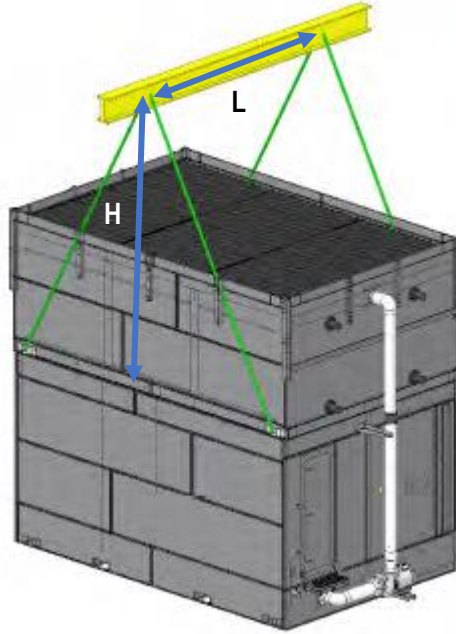
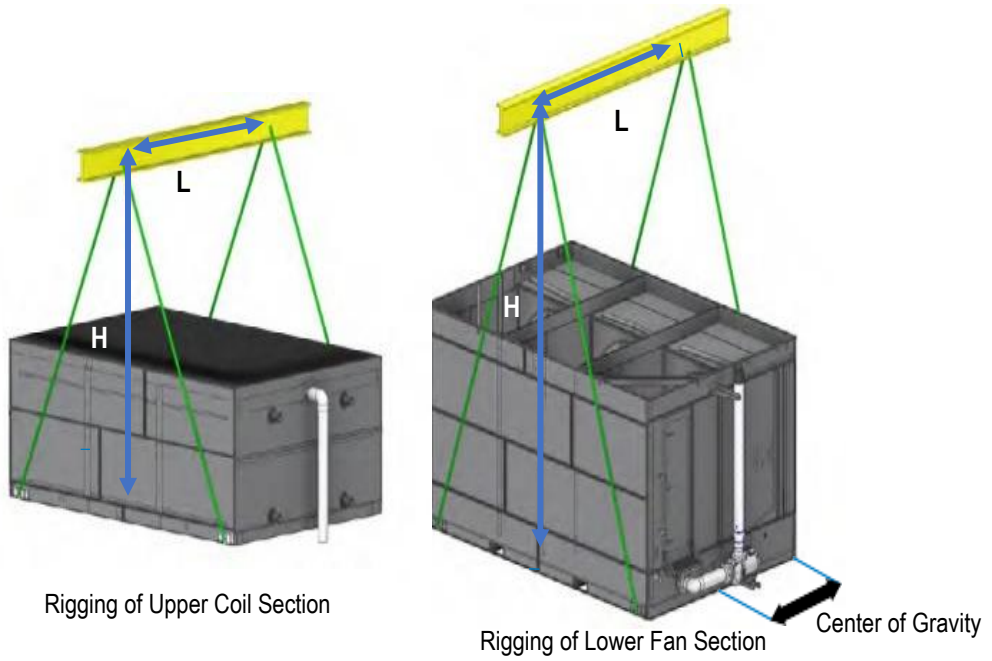

Figure 1. Single-Piece Lift
Figure 2. Two-Piece Lift
Most single cell Vertex® Evaporative Condenser products are designed to be lifted in one assembled piece as shown in **Figure 1**. **Verify the total unit shipping weight is below 35,000 lbs. before performing a single-piece lift.** A two-piece lift is shown in **Figure 2**.
: Single piece lift is ONLY possible when total unit shipping weight is under 35,000 lbs. Please refer to the shipping weight shown on the Unit Print from submittal package. Single piece lifting must be done using lifting ears on the base of the upper casing section (See **Figure 1**).
1. Remove any motors or accessories shipped in the cold water basin. Rig the basin section. The rigging hook must be placed above the section's center of gravity as detailed in **Figure 1** and **Figure 2**.